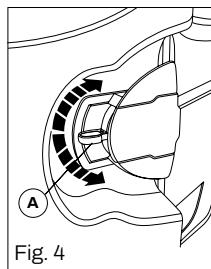

Fig. 4
(Fig. 4)
- Warm air (Fig. 4) removes water vapour quickly, as it absorbs a much higher quantity of water than cold air